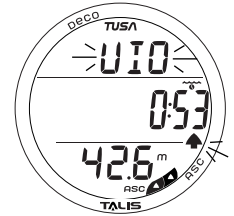

Fig. 69 - VGM DIVE MAIN
**VGM Main**, information includes (Fig. 69):